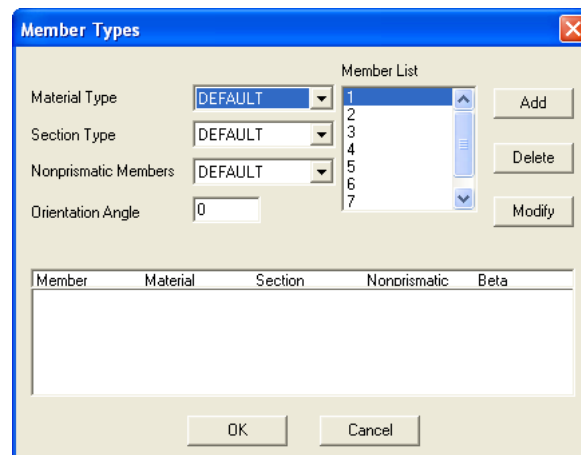

Figure 3-25 Member Types dialog box
- From the **Process** menu, select **Member Types**. The dialog box Figure 3-25 appears. Some options may not be available, depending on the structure type selected.